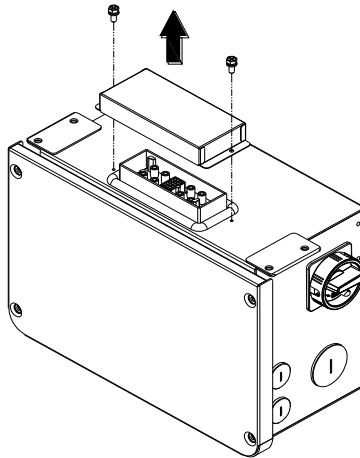
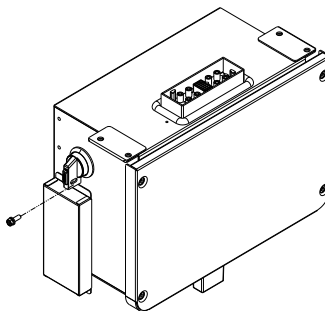

Figure 3-7 Wire-box Bulkhead Cover
Figure 3-10 Attach the Cover to the left side of the Wire-box
Save the bulkhead cover and screws and attach the cover to the left side of the wire-box after the wire-box is attached to the inverter enclosure. Covers may be required in the future if an inverter or wire-box is to be removed during servicing (see step 5, Figure 3-10).
5. Attach the bulkhead cover shown in Figure 3-7 to the left side of the wire-box. (see Figure 3-10)